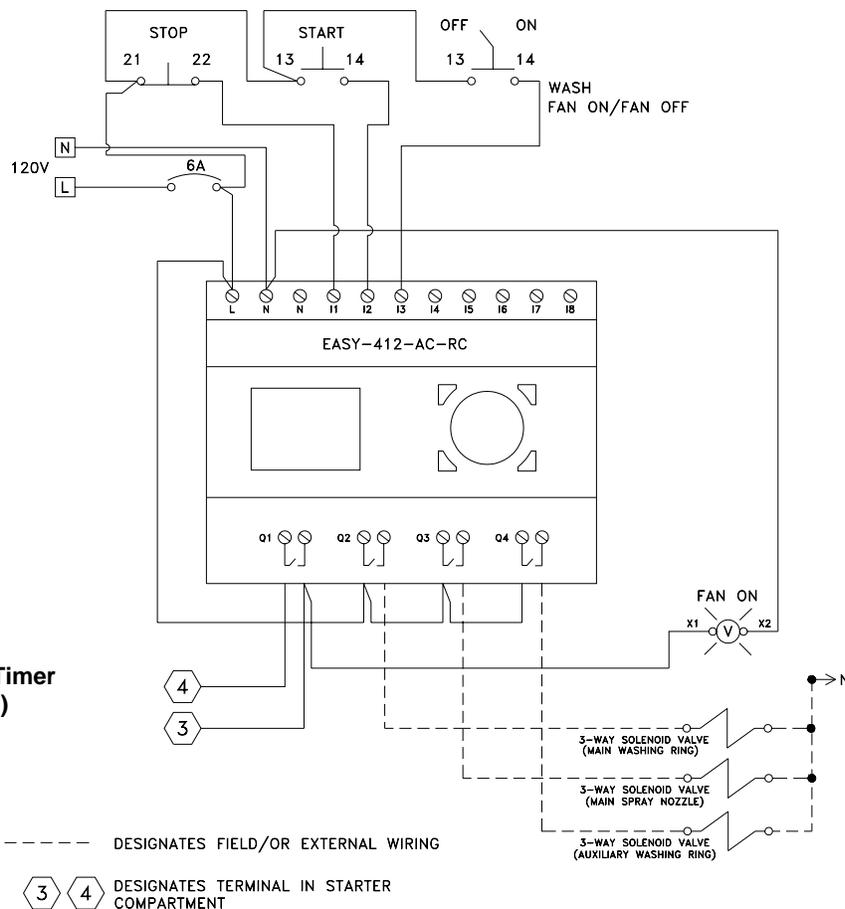

Fig. 5 – Control Timer Wiring (TYP.)
5. The installation of the solenoid valves should be as close as possible to the washing units, (spray nozzles/washing rings), as detailed in the submittal. The control timer can be located as required. For further details regarding the washing sequence, see Fig. 4 & Fig .5.
Perchloric acid is extremely dangerous because it is a very strong oxidizer. Dry perchloric acid crystals are unstable, and when subject to shock or vibration, can explode. For this reason the Venturi stack is supplied with a washing ring and spray nozzle for periodic washing (flushing) of the duct work to remove accumulated wall deposits, which are soluble in water. The 'MVT Plastifer Perchloric Acid Wash Controller' used in conjunction with the Perchloric Acid Exhaust Venturi system, safely and automatically washes perchlorates from the system. This control package can be supplied by MK Plastics. See Fig. 4 to Fig. 5 for details.